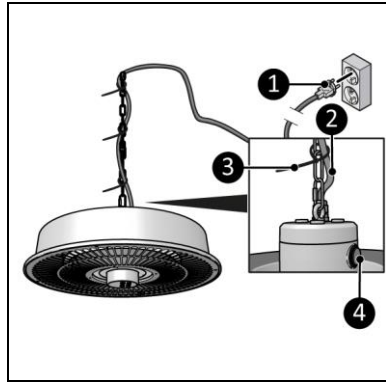

Figure 9
2. Make sure the ON/OFF switch is in the OFF position (Figure 9, pos. 4).
3. Place the power cable (Figure 9, pos.2) along the hanging chain using tie wraps (Figure 9, pos. 3).
4. Place the power plug (Figure 9, pos. 1) into an earthed wall socket that is easily accessible. Use an earthed wall socket with a minimum power of 1500 Watt.
1. Set the ON/OFF switch to the ON position (Figure 9, pos. 4).
1. Make sure the ON/OFF switch is in the OFF position (Figure 9, pos. 4).
2. Disconnect the power plug from the power outlet (Figure 9, pos. 1).